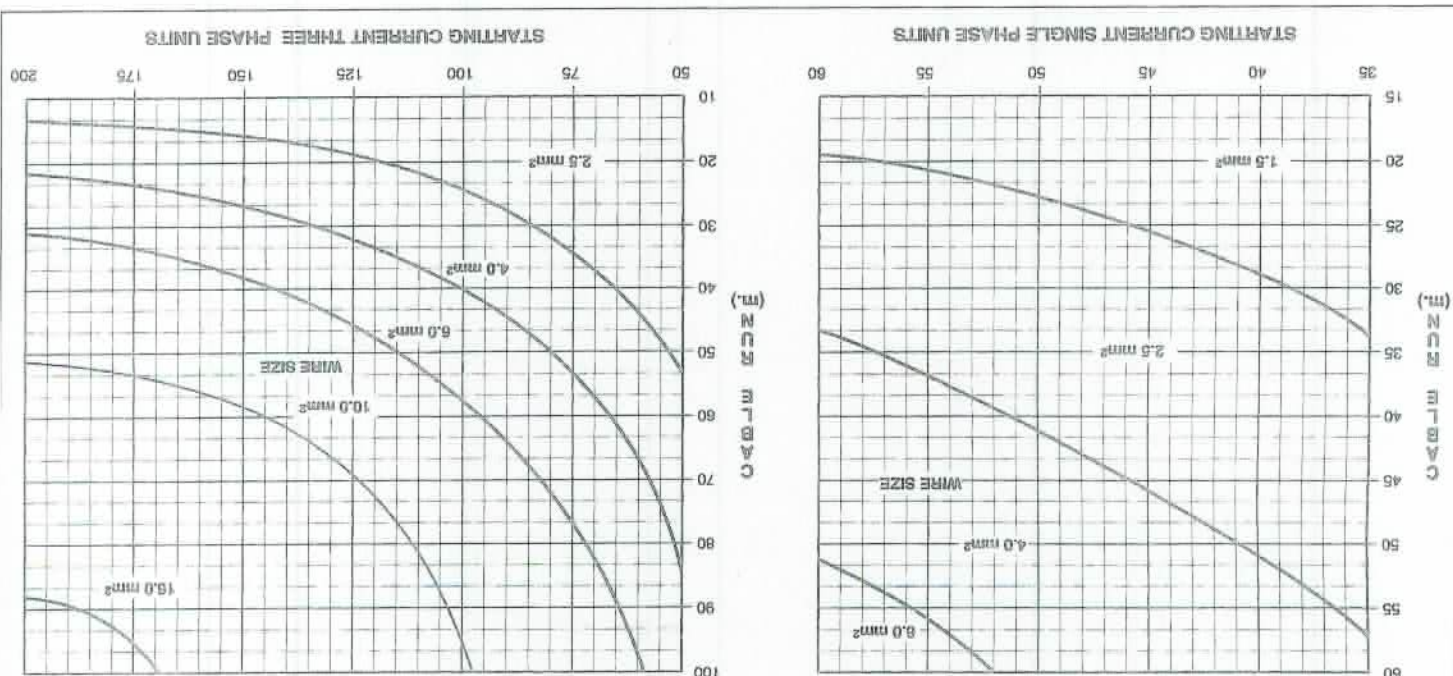

Fig. 1
1. Select minimum acceptable wire size to handle starting current — fig 1.